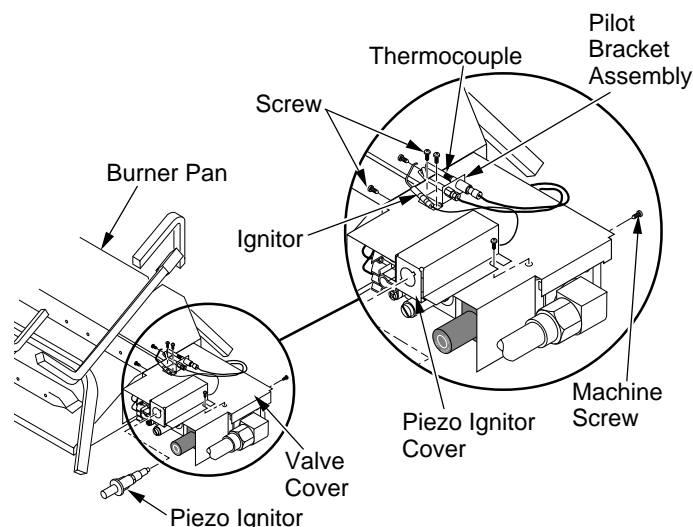
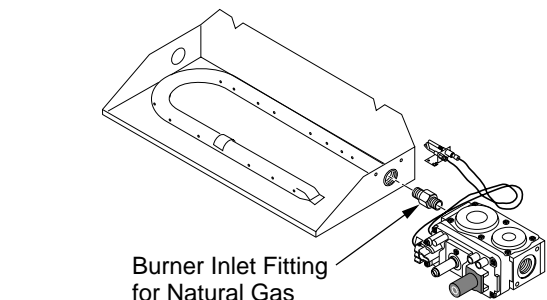
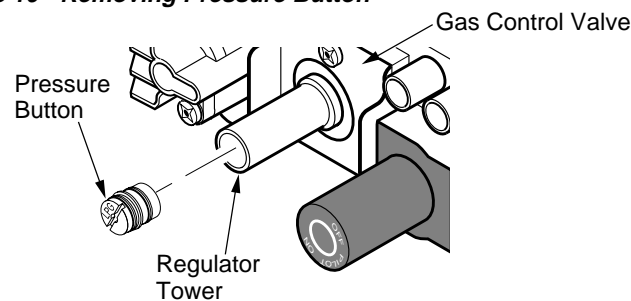

Figure 7 - Removing/Installing Thermocouple, Pilot, and Piezo Ignitor Cover
Figure 8 - Remove Burner Inlet Fitting
Figure 11 - Replacing the Pressure Button in the Propane/LP position
1. Remove the pilot assembly from the valve cover by removing the two screws on the bracket (see Figure 7).
3. Remove the two (2) screws on the burner pan and the remaining screw on the rear of the control valve to remove valve cover.
4. Unthread control valve and burner inlet fitting from burner tube by turning valve counter-clockwise (see Figure 8).
5. Remove natural gas inlet fitting from the control valve and discard (see Figure 8). DO NOT remove the orifice from this fitting. The propane/LP burner inlet fitting is included in the hardware kit (see Figure 11, page 8).
8. Rethread the valve and fitting assembly into the burner tube until fully threaded and level with the burner pan. Reattach the valve cover with the three (3) screws previously removed in step 3.
3. Reverse the pressure button and replace into regulator tower (see Figure 11).
4. Reattach the pilot and piezo ignitor assembly to the valve cover with the screws previously removed (see Figure 7, page 7).